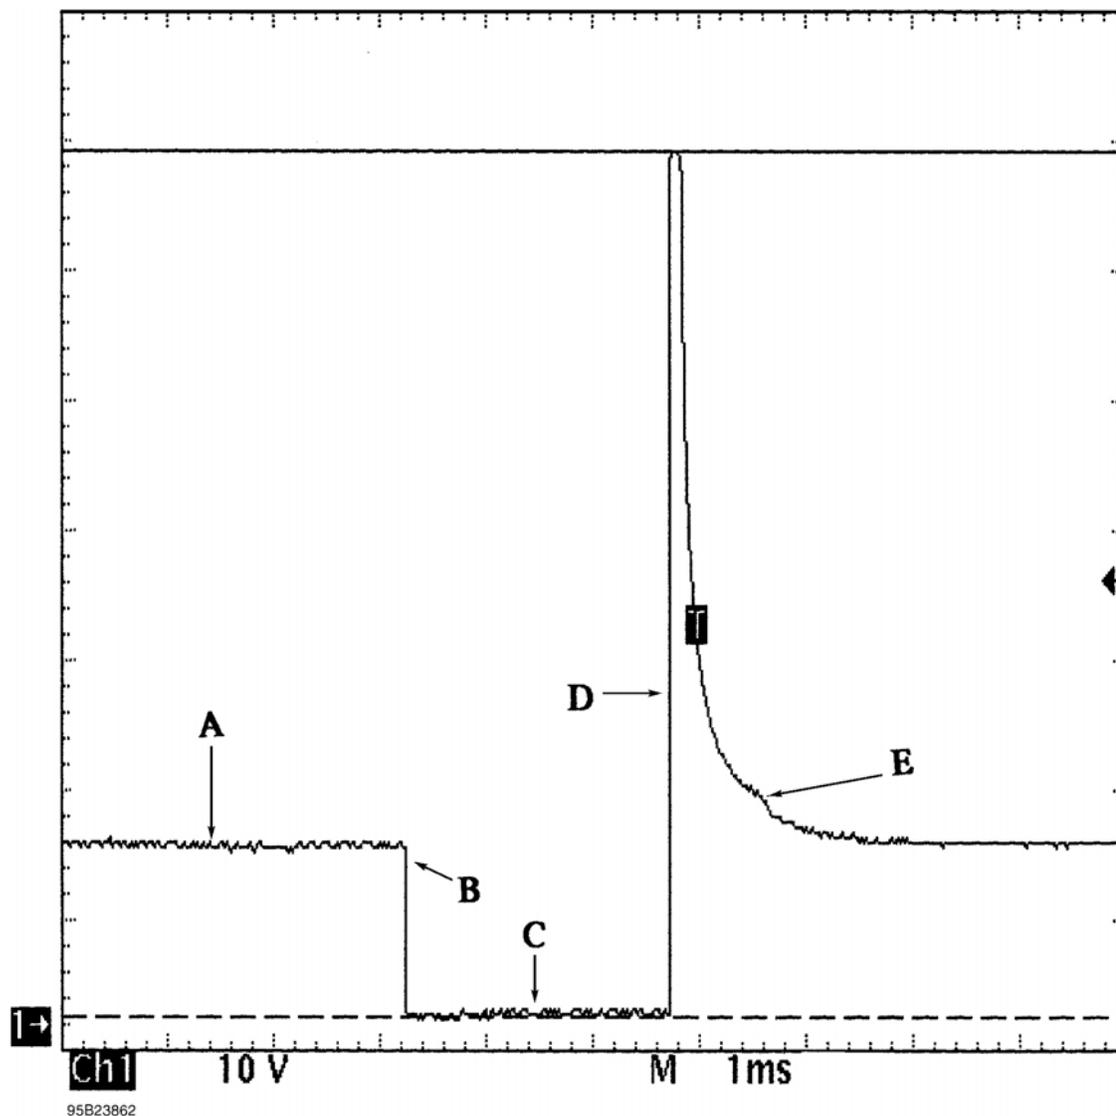

Fig. 2: Identifying Voltage Controlled Type Injector Pattern
- See **Fig. 2** for pattern that the following text describes.